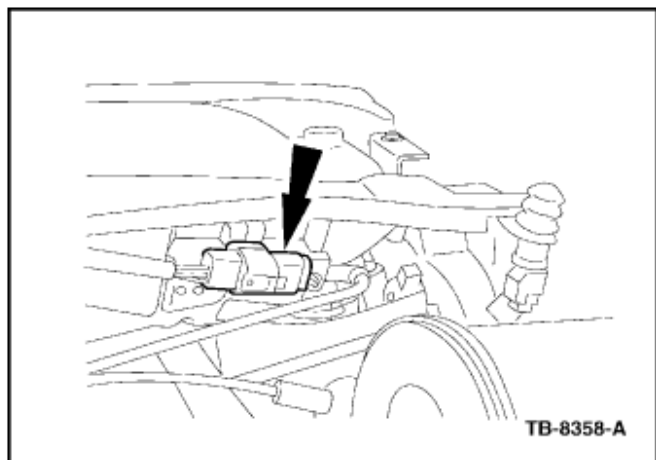

Figure 13
16. Connect the electrical connector. (Figure 13)